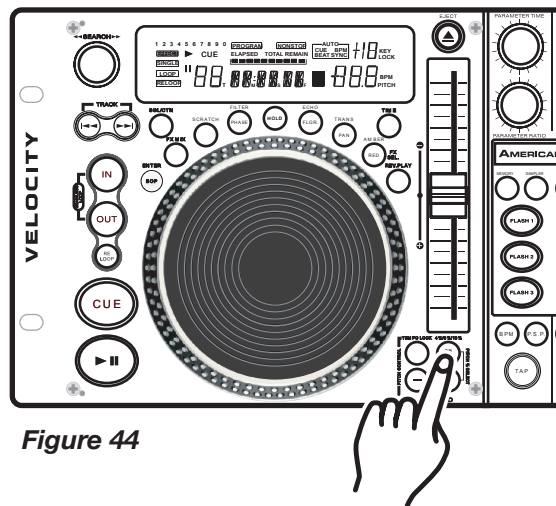

Figure 44
Adjusting the PITCH SLIDER'S RANGE (33): You may change the *PITCH SLIDER'S* (33) operating range at any time. To change the operating range be sure the pitch function is turned on, see figure 44. The pitch percentage can be changed between +/-4%, +/-8%, +/-16%, and +/- 100%. 4% will allow the least amount of pitch manipulation and 100% will allow the most amount of pitch manipulation. To adjust the different values, press and hold down the *PITCH ON/OFF BUTTON* (26) and Tap on the + *PITCH BEND BUTTON* (28) until your desired value is reached. The LED above the *PITCH BUTTON* (26); glowing red for 4%, glowing green for 8%, glowing orange for 16% or flashing green for 100%. Note, the pitch percentage must be activated to get a LED reading.